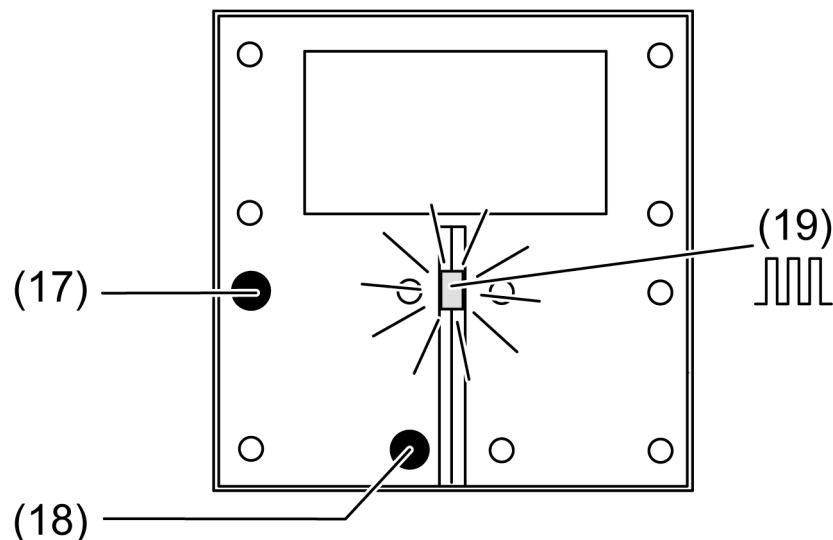

Figure 4: Activating programming mode
- Activate programming mode: Press and hold push-button (17) (see figure 4). Then press push-button (18). The operation LED (19) flashes quickly.
- Programming the physical address. The operation LED (19) returns to its previous state – off, on, or flashing slowly.